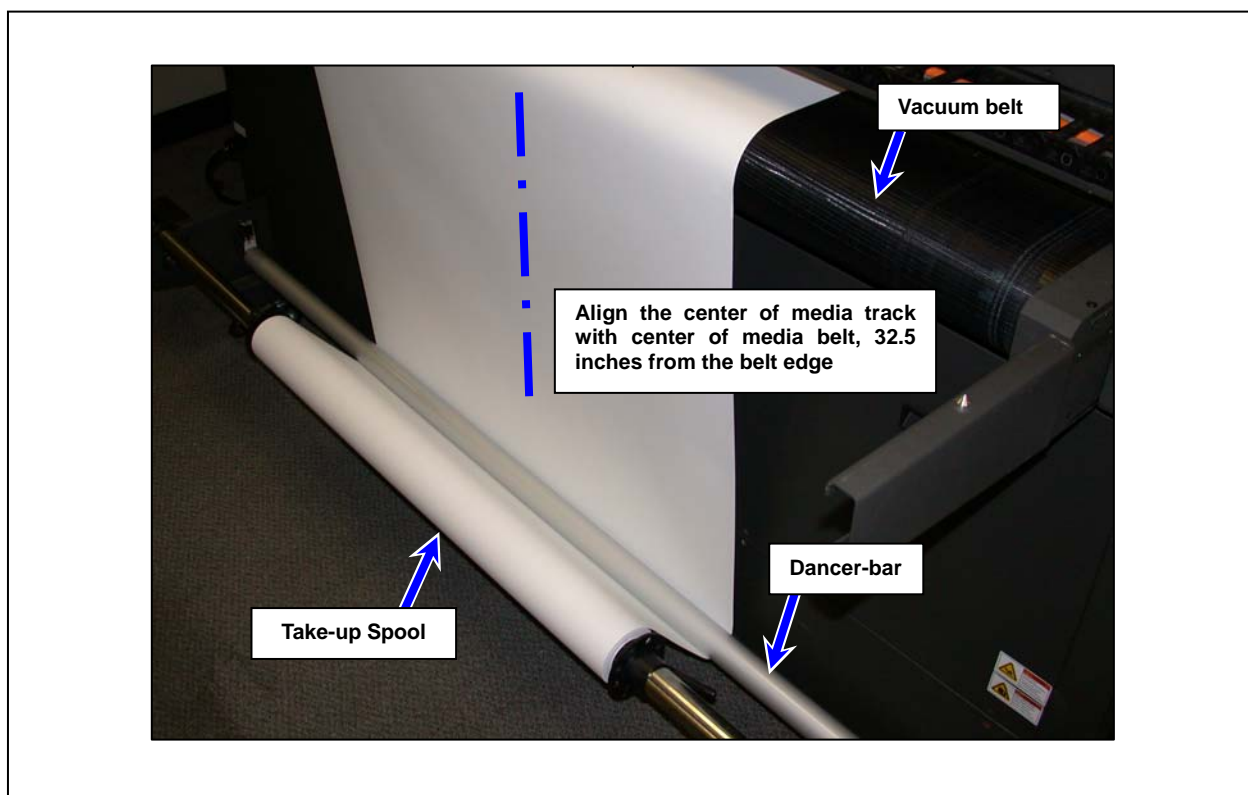

Figure 38 Roll Media Take-up Spool
- 7 Thread the media beneath the rear dancer-bar and up onto the vacuum belt. See **Figure 38**.